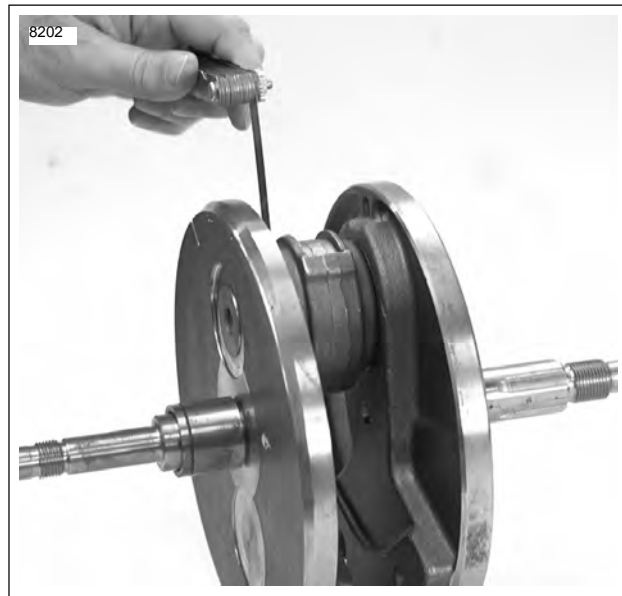

Figure 3-80. Checking Connecting Rod Side Play
3. See Figure 3-80. Check connecting rod side play.